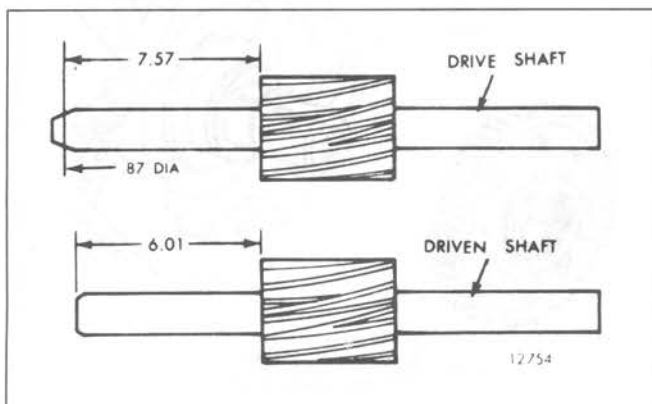

Fig. 6 – Location of Oil Pump Gear on Shaft
2. Press the drive shaft into the oil pump drive gear. Position the gear 7.570" from the end of the drive shaft (Fig. 6). Use tool J 22397.
3. Insert the Woodruff key in the keyway of the driven shaft. Apply a light coat of engine oil on the shaft. Press the shaft in the driven gear. Position the gear 6.010" from the end of the shaft (Fig. 6). Use tool J 22398.